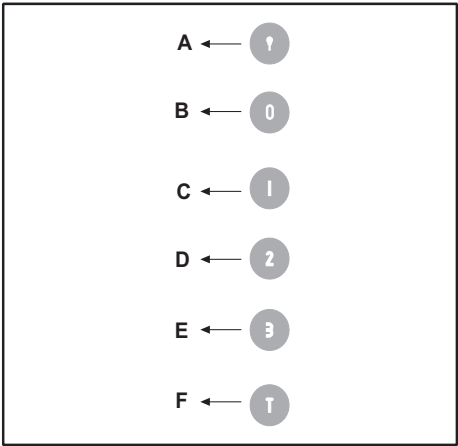

Fig.16
• **COMMANDS:** (Fig.16) **LUMINOUS** the key symbols are explained below: